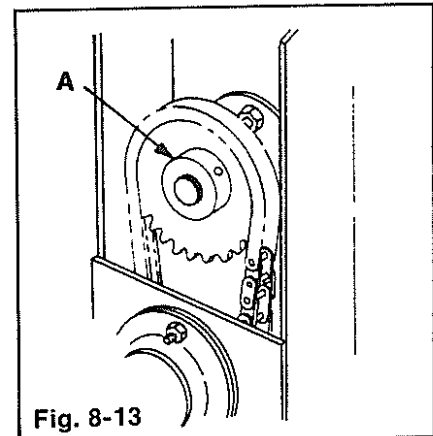

Fig. 8-13
1. Loosen sprocket (A) Fig. 8-13 set screws and locking collar set screws behind sprocket. Loosen locking collar by turning.
3. Disassemble gear box from housing support (C).
4. Loosen both set screws and locking collars of housing bearings (D).
5. Remove (6) carriage bolts, lock washers and hex nuts (E) securing housing bearings.
6. Slide gear case as far as possible to the right side and remove the entire auger shaft assembly. Disassemble rear sprocket (A) Fig. 8-13 and key in shaft as complete shaft assembly is being removed.
2. Secure fan assembly coupling (F) in place.
3. Place both end housing bearing assemblies (D) onto auger shaft.
4. Insert complete assembly into housing. Assemble square key and sprocket (A) Fig. 8-13 onto rear gear box.
6. Secure flange bearings (D) to end housings.
8. Tighten locking bearing collar behind sprocket (A) Fig. 8-13 and tighten set screws.
9. Line up rear sprocket (A) and secure with set screws.
10. Tighten locking collar and set screws on each end housing bearing (D).